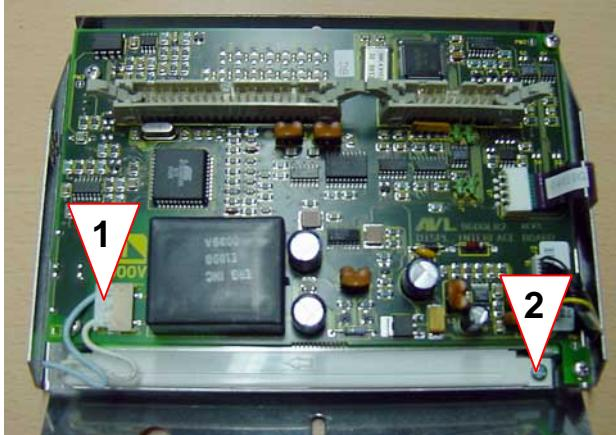

Fig. 3-44 Screen (rear view)
2. Pull off the connector from the fluorescent tube (see Fig. 3-44, 1).
3. Open the mounting screw (see Fig. 3-44, 2) and take out the fluorescent tube.